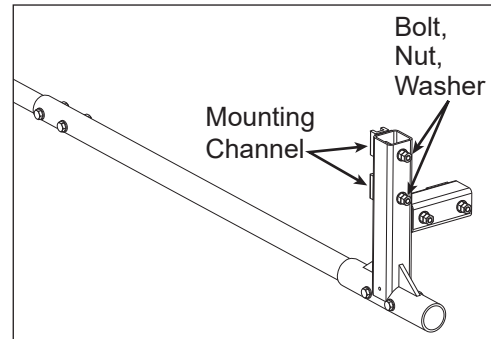

Figure 25: 10-20' Adjustable Webcam Arm Mounting
3. Slide two of the mounting channels and bolts into the horizontal mounting channel on the rear of the display. Refer to **Figure 25**.